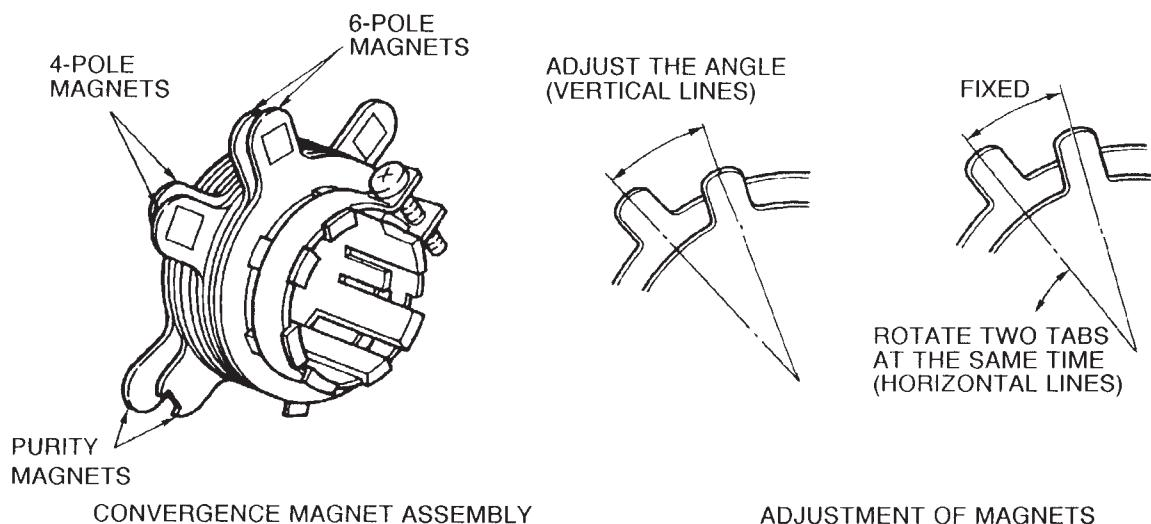

Figure 3.
- Rotate and spread the tabs of the purity magnet (See figure 3.) around the neck of the picture tube until the green belt is in the center of the screen. At the same time, enter the raster vertically.
3. Adjust two tabs of the 4-Pole Magnets to change the angle between them (See figure 3.) and superimpose red and blue vertical lines in the center area of the picture screen.